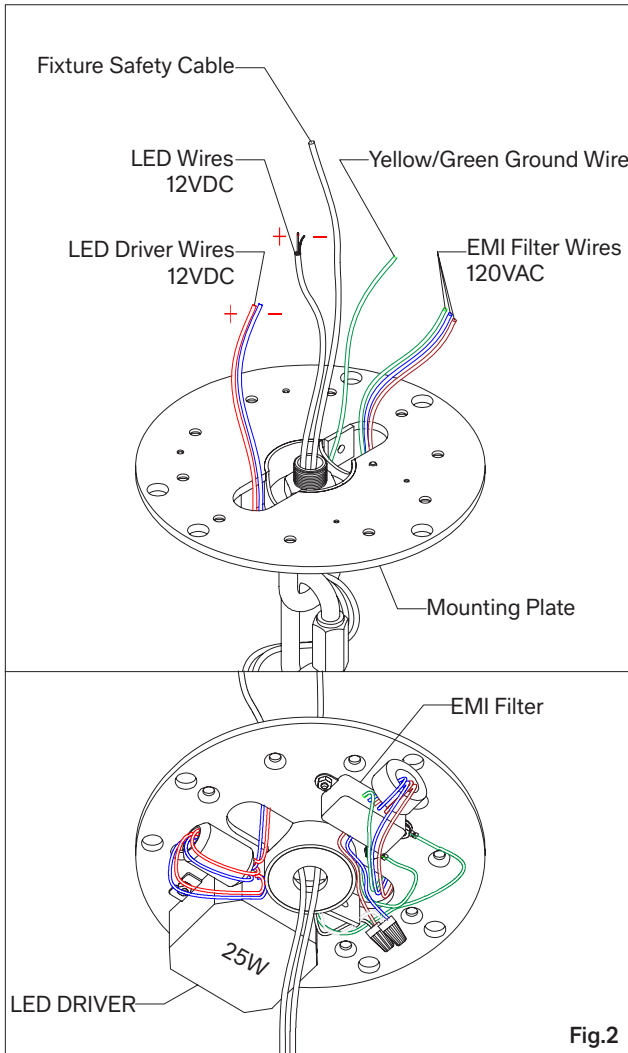

Fig.2
2. Determine desired hanging length of pendant. Connect some or all the Extension Rods (K)(M)(O), Extension Threaded Pipes (J)(L) (N) and Couplings (P) to the Neck (Q) according to desired height. Feed wire and safety cable through the Extension Threaded Pipes at the same time.
3. Connect the Hanging Mechanism (I) to Extension Threaded Pipes. Insert the 1 3/8" L Threaded pipe (G) on the other end of the Hanging Mechanism (I). Feed wire and safety cable through at the same time.
4. Thread the Ring (H) onto the Hanging Mechanism (I) until it can slide on the Extension Rods then slide the Canopy (F) on.
5. Secure the Mounting Plate (C) onto the Hanging Mechanism (I) with the Hexagonal Nut (A) then tighten the Set Screw (B) inside the Hexagonal Nut (A). Feed wire and safety cable through at the same time. Wires will come out the backside of Mounting Plate (F).
6. Carefully inspect the LED Strip Wires (see Fig. 2). Clear coated wire is the +12V WIRE. Bare wire is the -12V WIRE. Yellow/Green Wire on the Mounting Plate (C) is the GROUND WIRE.
7. Carefully inspect the LED Driver Wires (see Fig. 2 and Label on LED Driver). Red wire is the +12V WIRE. Blue wire is the -12V WIRE. Green wire is the GROUND WIRE.
8. Carefully inspect the EMI Filter wires (see Fig. 2). Blue wire is the NEUTRAL WIRE. Brown wire is the HOT WIRE. Yellow/green wire is the GROUND WIRE.
10. Remove the hex nuts holding the LED Driver (E) and leave it gently hanging. Keep all parts aside.
11. Attach Mounting Plate (C) to the ceiling where the outlet box is located with the Wood Mounting Screws (V).
12. Reinstall the hex nuts to secure the LED Driver (E) on the Mounting Plate (D).